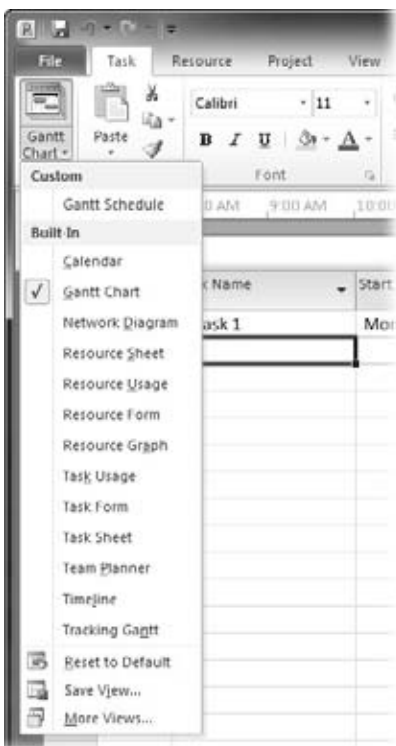

Figure 6-8:
1. **If the Gantt Chart view is not the current view, on the Task tab, click the down arrow on the Gantt Chart icon (Figure 6-8), and then click Gantt Chart.**